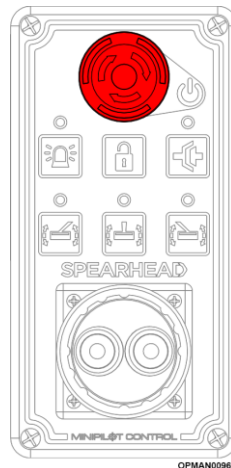

Figure 4.51
- 4.9.2.4 Once manoeuvred off the object, on Trident Proline machines specified with Spearhead's Minipilot control system, switch off the power to the control box by pressing the main red centre button to ensure the machine does not unintentionally move; see Figure 4.51.